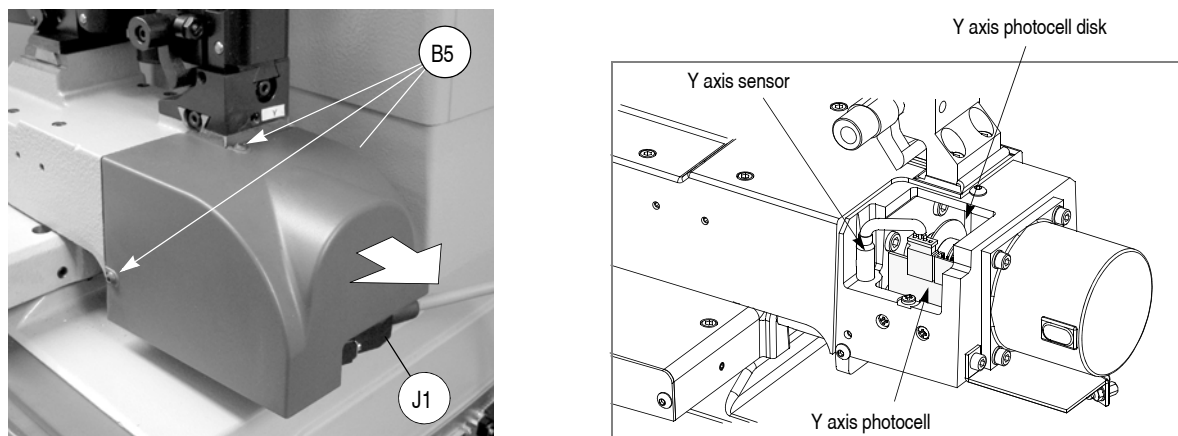

Fig. 35
- 5) disconnect the (J1) Y axis cable from the carriage (fig. 35).